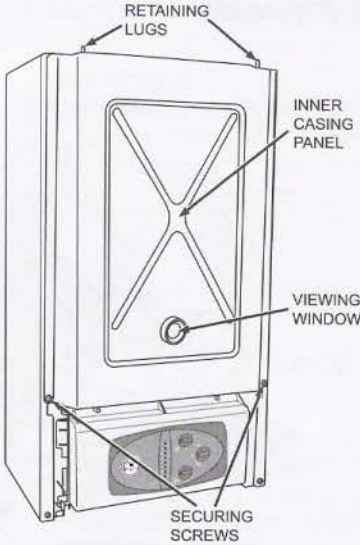

Figure 26
- Release the hermetic chamber cover by removing two screws on both sides and by lifting them to release from their retaining hooks. (*Figure 26*)